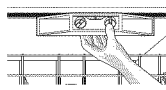

Figure 6a
9. Check that dishwasher is level from side to side by placing a level against the top front section of the tub. See Figure 6a.